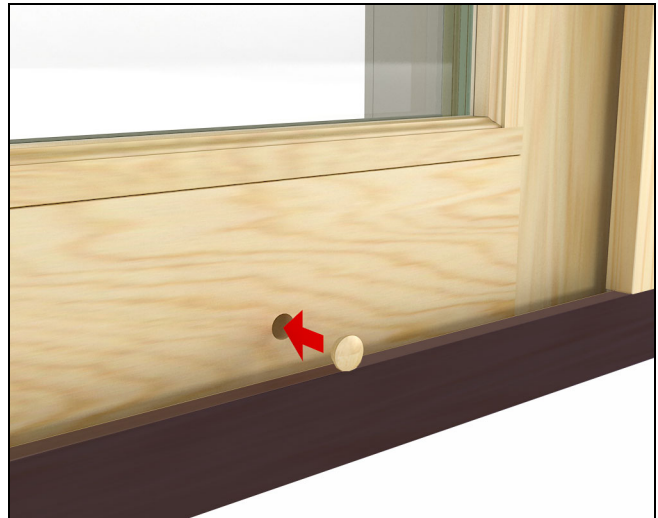

Figure 147
1. Tap wood adjustment hole button into each roller adjustment hole using a soft rubber mallet. See figure 147.